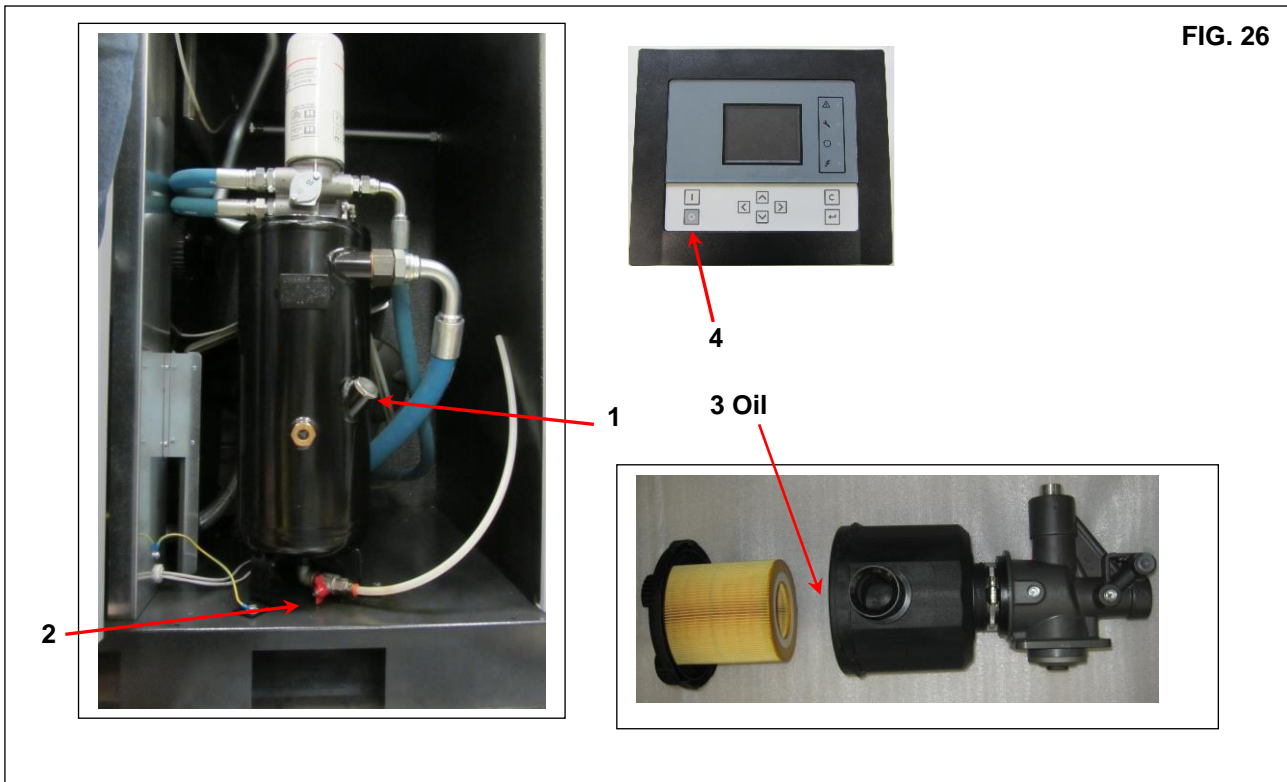

FIG. 26
After draining the used oil from the machine through the tap Ref. 2 Fig. 26
- Pour the oil into the inlet Ref. 1 Fig. 26 until the maximum level (See Chap. 15.4).
- Pour a bit of oil into the intake unit Ref. 3 Fig. 26
- After about 1 minute, turn the machine off by pressing "STOP" (Ref. 4 Fig. 26), after the unloading run time, the machine will turn off.